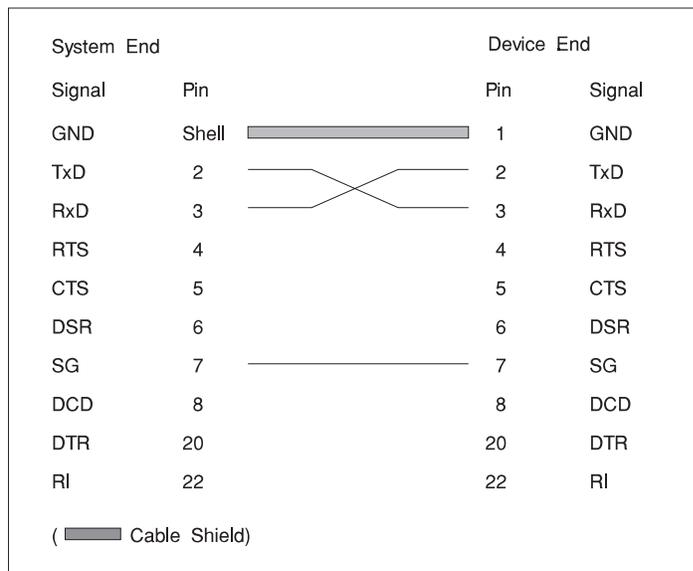

Figure B-1. Simple Terminal/Printer Cable for EIA-232E Applications
Serial terminals and printers often require only a three-signal connection to the 8-Port Asynchronous PCI Adapter. For device drivers that support XON/XOFF (software) handshaking, the required signal lines are transmitted data (TxD), received data (RxD), and signal ground (SG). Cables must be shielded and the shield must be connected to chassis ground (GND) at both ends of the cable run to remain in compliance with FCC certification requirements. The cable can be used as a null modem cable, that is, transmit data on one end of the cable is connected to receive data at the other end and vice versa. A cable of this type is shown in Figure B-1 for EIA-232E applications.